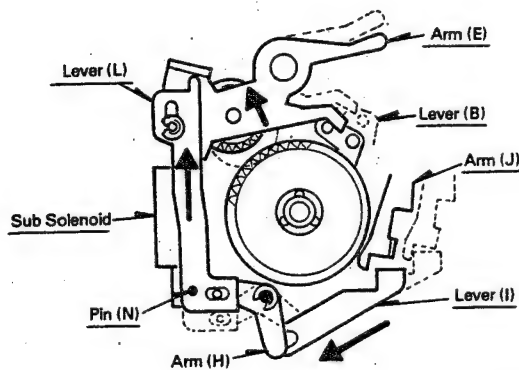

Fig. 21
1. When the Sub Solenoid in Fig. 21 is activated, Lever (L) which is coupled with the Sub Solenoid and Pin (N) is attracted.
2. Lever (L) causes Arm (E) to rotate, the Idle Gear is disengaged from the Reel Unit, Lever (B) is simultaneously made to rotate, and Claws (A) and (B) for preventing the Reel Unit from reversing are freed.
3. When Lever (L) is attracted, Lever (I) moves in the direction of the arrow via Arm (H), Arm (J) is attracted and the Head Base is released.